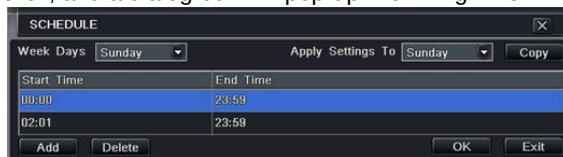

Fig 4.15 Schedule - Week Schedule
Step 1: Select channel, double-click, and a dialog box will pop-up like in Fig 4.15 where user can edit week schedule.